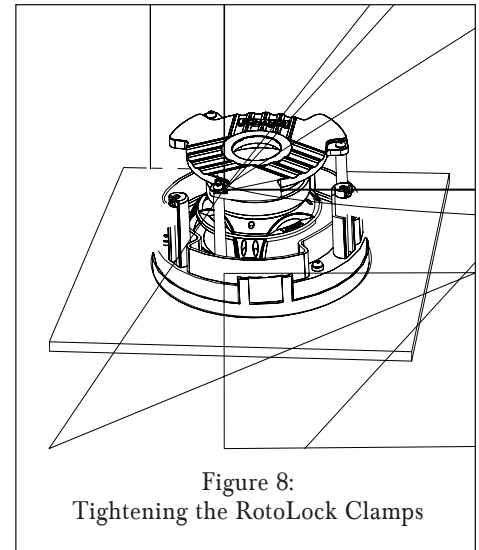

Figure 8:
6. Tighten the four screws on the front of the speaker baffle. The RotoLock clamps will automatically rotate into position and begin clamping the speaker (see *Figure 8*).